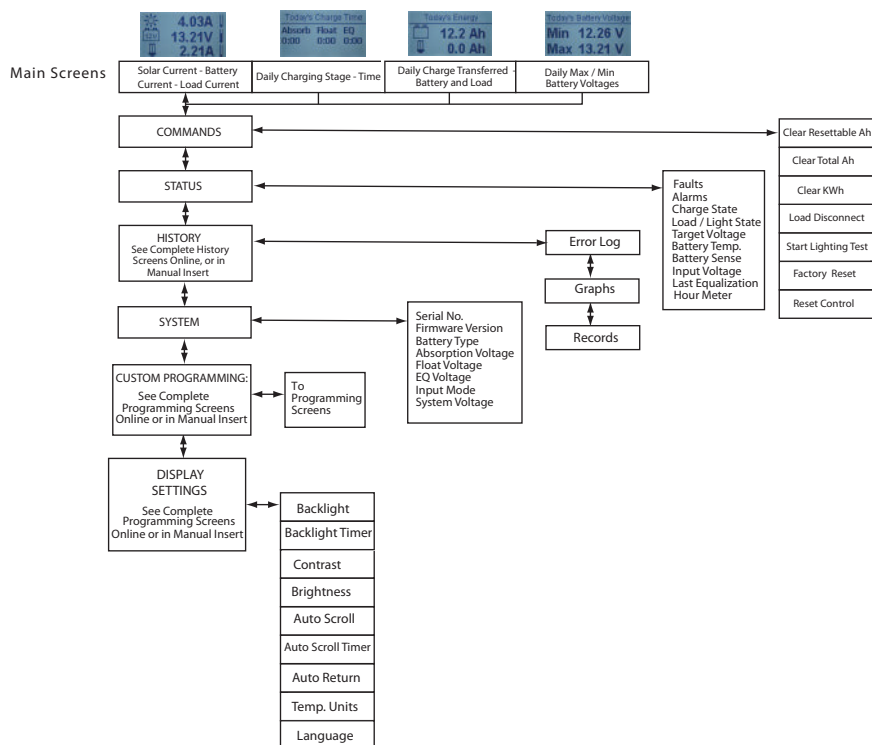

Figure 4-7. Simplified Meter Map. For metered models, see the included complete meter map insert, also available in the ProStar MPPT support documents at:
- Extensive settings adjustment and information as shown partially in Figure 4-7 below:
The display setting options, as shown in Figure 4-7, are adjustable by using the directional keys to locate and edit a desired setting or variable.